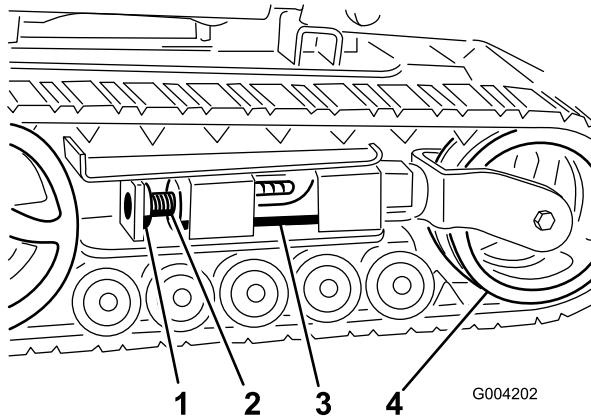
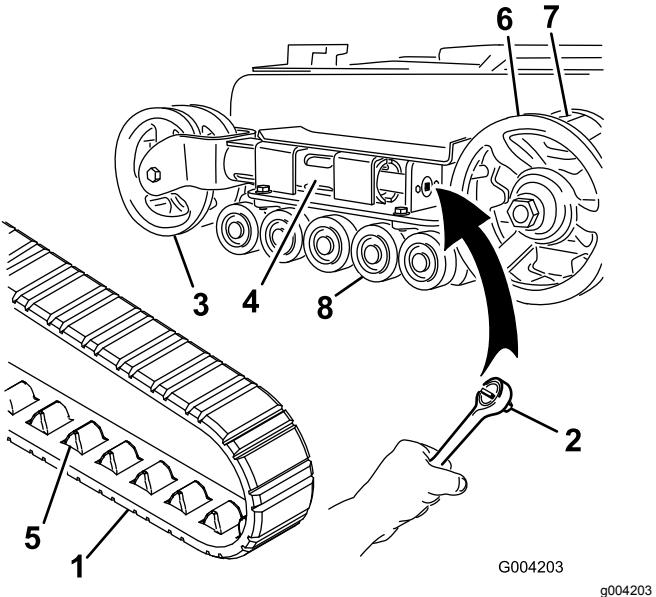
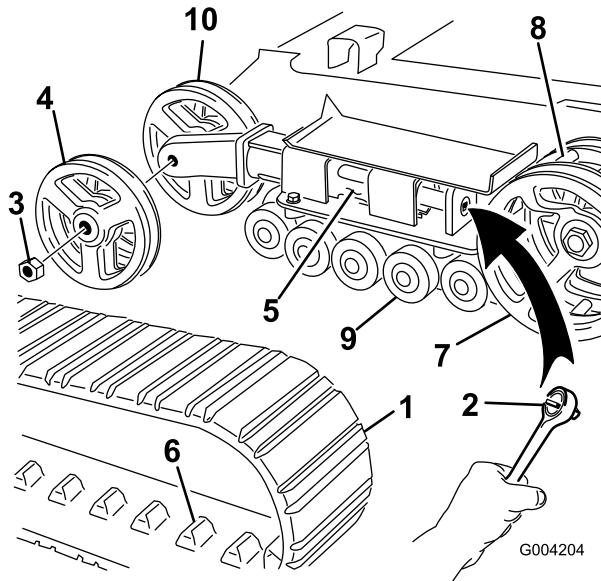

Figure 47
Figure 48
Figure 49
6. Align the closest notch in the tension screw to the locking bolt hole and secure the screw with the locking bolt and nut (Figure 47).
Note: You have narrow-width tracks if the front tension wheels are mounted inside a fork on the end of the tension tube (Figure 48).
4. Remove the locking bolt and nut (Figure 47).
5. Using a 1/2-inch drive ratchet, release the drive tension by turning the tensioning screw clockwise (Figure 47 and Figure 48).
6. Push the tension wheel toward the rear of the unit to move the tension tube against the frame (Figure 48).
8. When the track is off the tension wheel, remove it from the drive sprocket and road wheels (Figure 48).
9. Beginning at the drive sprocket, coil the new track around the sprocket, ensuring that the lugs on the track fit between the cogs on the sprocket (Figure 48).
10. Push the track under and between the road wheels (Figure 48).
Note: You have wide-width tracks if the front tension wheels are mounted on the sides of the end of the tension tube (Figure 49).
5. Using a 1/2-inch drive ratchet, release the drive tension by turning the tensioning screw clockwise (Figure 47 and Figure 49).
6. Push the tension wheel toward the rear of the unit to move the tension tube against the frame (Figure 49).
7. Remove the nut securing the outer tension wheel and remove the wheel (Figure 49).
8. Remove the track (Figure 49).
9. Remove the nut securing the inner tension wheel and remove the wheel (Figure 49).
13. Install the inner tension wheel and secure it with the nut removed previously (Figure 49).
15. Install the new track, ensuring that the lugs in the track fit between the cogs in the middle of the drive sprocket (Figure 49).
16. Install the outer tension wheel and secure it with the nut removed previously (Figure 49).
6. Place the greased road wheel cap over the bolt head (Figure 48).
7. Secure the road wheel cap with the snap ring (Figure 48).